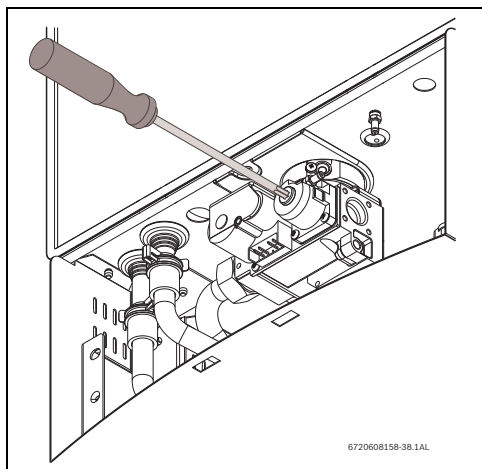

Fig. 62 Adjusting P2 CO₂ level
- ▶ Remove yellow painted #40 Torx cover from the front of the gas valve. (fig. 62) A plastic #40 Torx screw will be revealed.